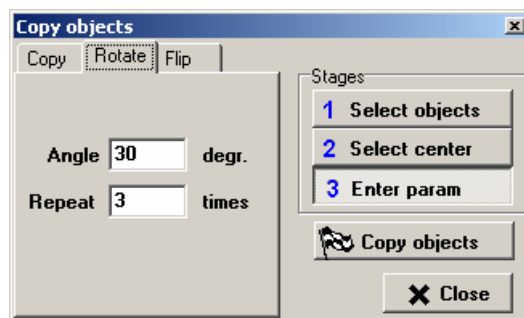

Fig. 42
- **Rotate.** This operation creates new object by rotation of the selected objects. Simultaneous creation of objects by rotating at consecutively increasing angles is available. The **Rotate** tab includes the following elements (see Fig. 42):